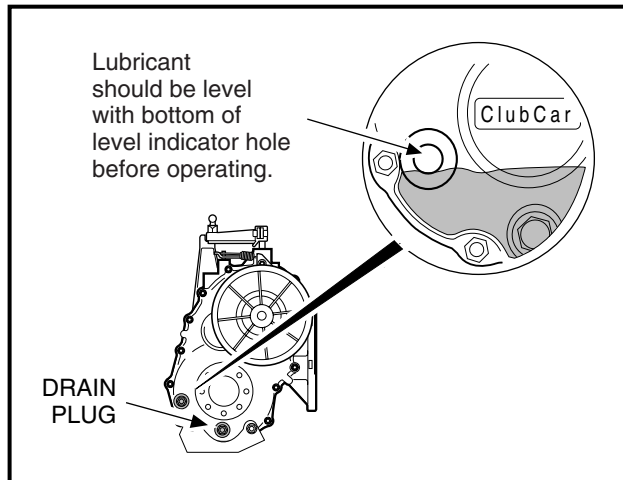

Figure 6-3 Lubricant Level
2. Remove both the top and bottom lubrication port plugs and gaskets. Drain and dispose of the oil properly (**Figure 6-3, Page 6-3**).